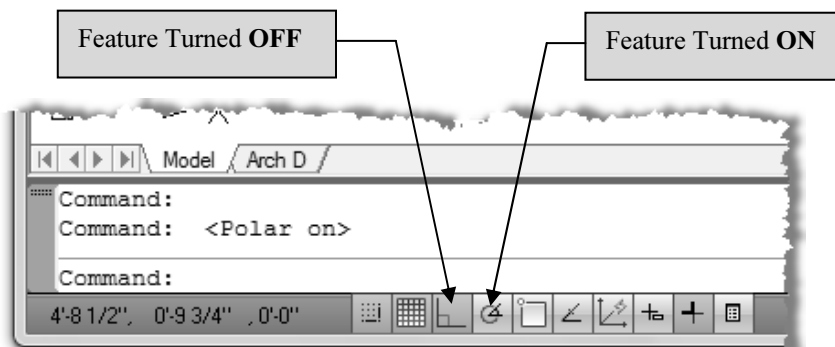

Figure 2-1.9 Status Bar – shown with Polar (i.e., Polar Tracking) turned on.
14. On the *Status Bar*, make sure **Polar Tracking** is turned on. (Figure 2-1.9). *It should have a bluish background.*